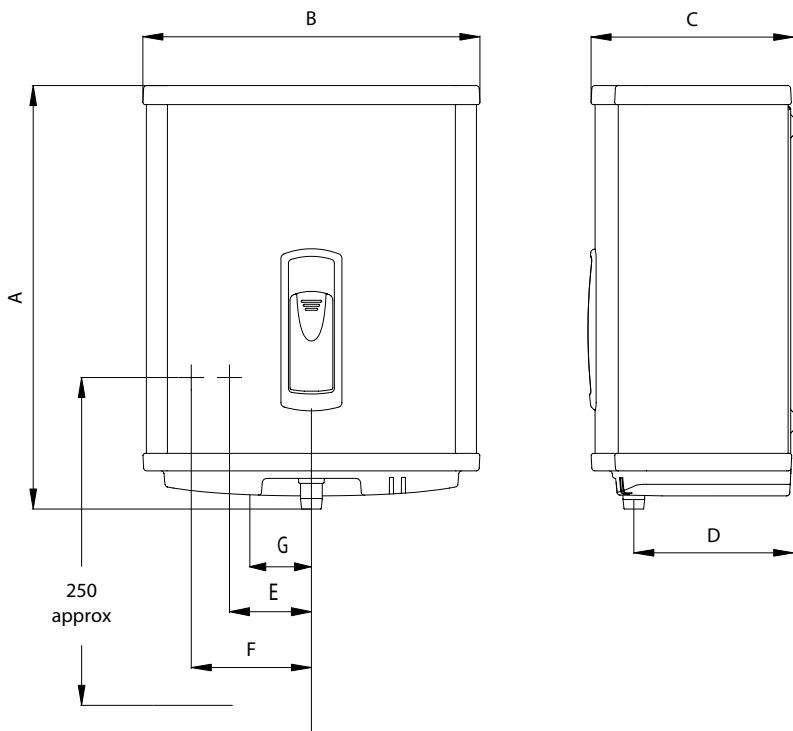

Fig.2
- 2.2 Fig.2 details the outside dimensions of the Supreme unit. A template is supplied to aid positioning the heater. It is recommended that the unit is positioned above a draining board. If this is not possible consideration should be given to any spillages that may occur under the heater. A drip tray is available as an accessory (Heatrae Sadia Code No. 95 970 123). The heater should be positioned at a height to suit the items being filled (flasks, pans, cups etc.). This is likely to position the base of the unit 250mm above the work surface.